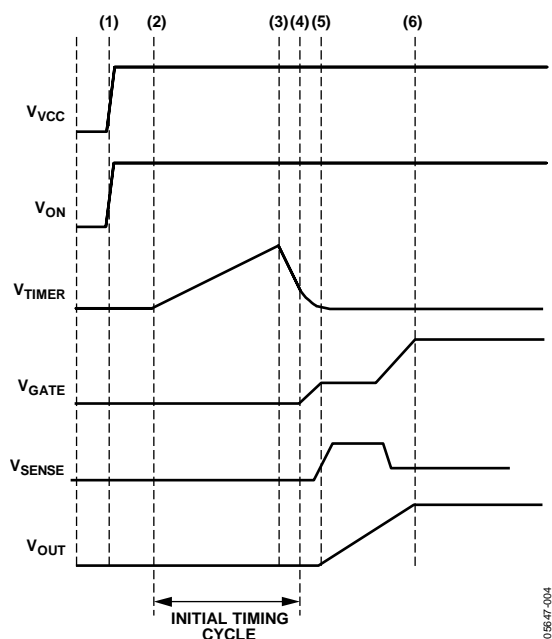

Figure 30. Startup (ON Asserts as Power Is Applied)
When VCC is first connected to the backplane supply, the internal supply (Time Point (1) in Figure 30) of the ADM1175 must be charged up. A very short time later (significantly less than 1 ms), the internal supply is fully up and, because the undervoltage lockout voltage is exceeded at VCC, the device comes out of reset. During this first short reset period, the GATE pin is held down with a 25 mA pull-down current, and the TIMER pin is pulled down with a 100  $\mu\text{A}$  current sink.
When the initial timing cycle terminates, the device is ready to start a hot swap operation (assuming the ON/ONB pin is asserted). In the example shown in Figure 30, the ON pin is asserted at the same time that  $V_{CC}$  is applied; therefore, the hot swap operation starts immediately after Time Point (4). At this point, the FET gate is charged up with a 12.5  $\mu\text{A}$  current source.